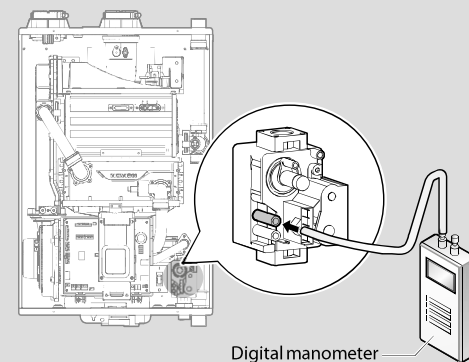

Figure 10. Connect Digital Pressure Manometer
- Open the offset pressure port by loosening the screw two turns as shown in Figure 10.